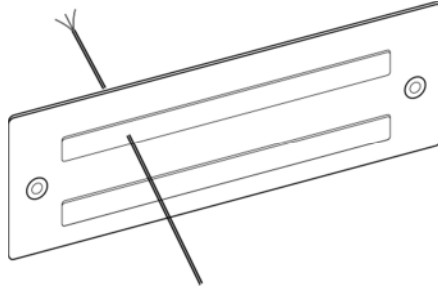

Figure 12 Schematic Diagram of a Feeding the Audio Output Cable Through the Protective Terminal Cover
- a. Strip one end of the prepared audio output cable jacket by 10mm, and feed the cable through the DCS protective cover of the terminal, as shown in Figure 12.
- c. Feed the other end of the audio output cable through the protective cover of the power amplifier. Refer to Figure 12.